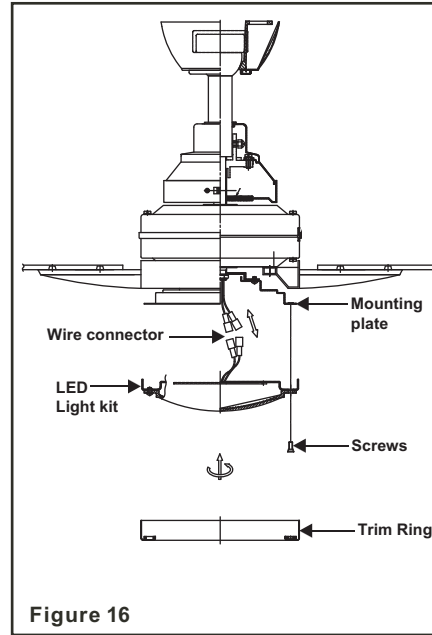

Figure 16
**Step 1.** Remove the two (2) Phillips headed shoulder screws from the light kit mounting plate. (**Note:** Do not remove the two torx head screws.) (Fig. 16)
**Step 3.** Align the torx head screws in the light kit with the two keyholes in the light kit pan. Reinstall the two (2) Phillips head screws previously removed into the threaded holes and securely tighten. (Fig. 16)
**Step 4.** Align the trim ring onto the two (2) Phillips screw heads on the light kit and turn clockwise until snug. (Fig. 16)